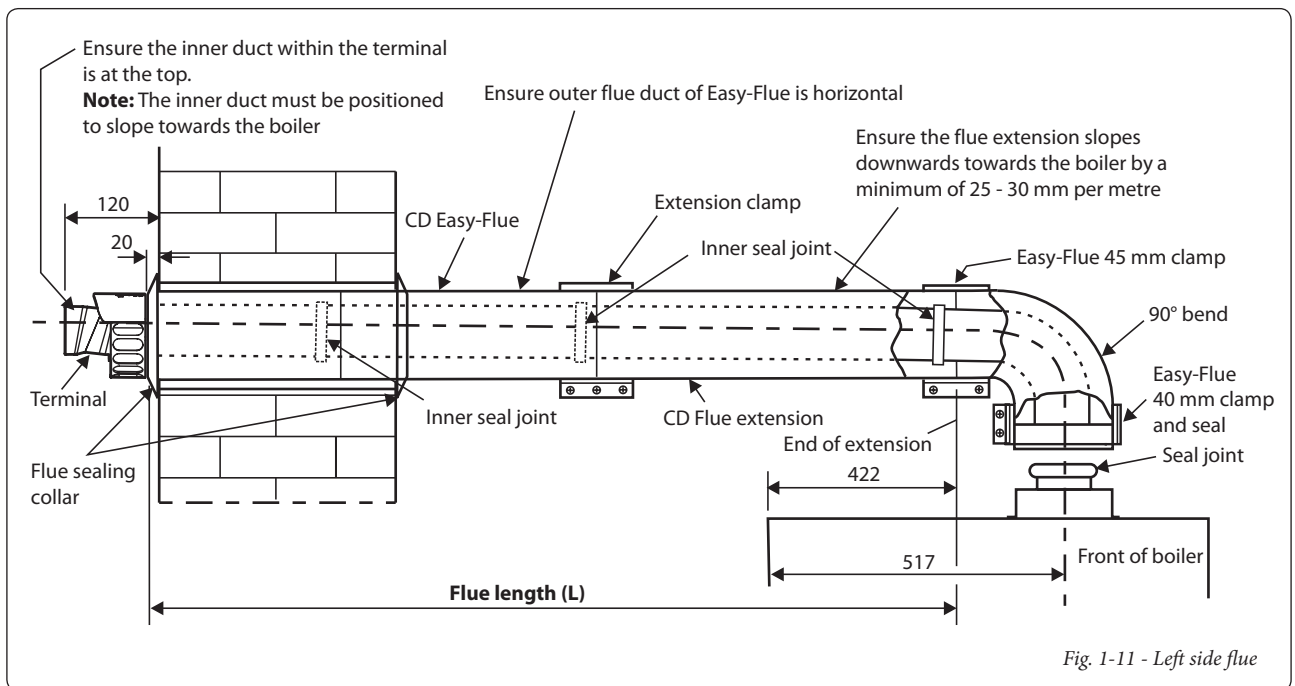

Fig. 1-11 - Left side flue
1.8 EXTENDING THE FLUE - FIG. 1-11
- Note:** Check the flue terminal protrudes 120 mm out of the wall and that the inner duct of the terminal is positioned correctly, i.e. the inner duct within the terminal is at the top. See Fig. 1-11 or 1.12.